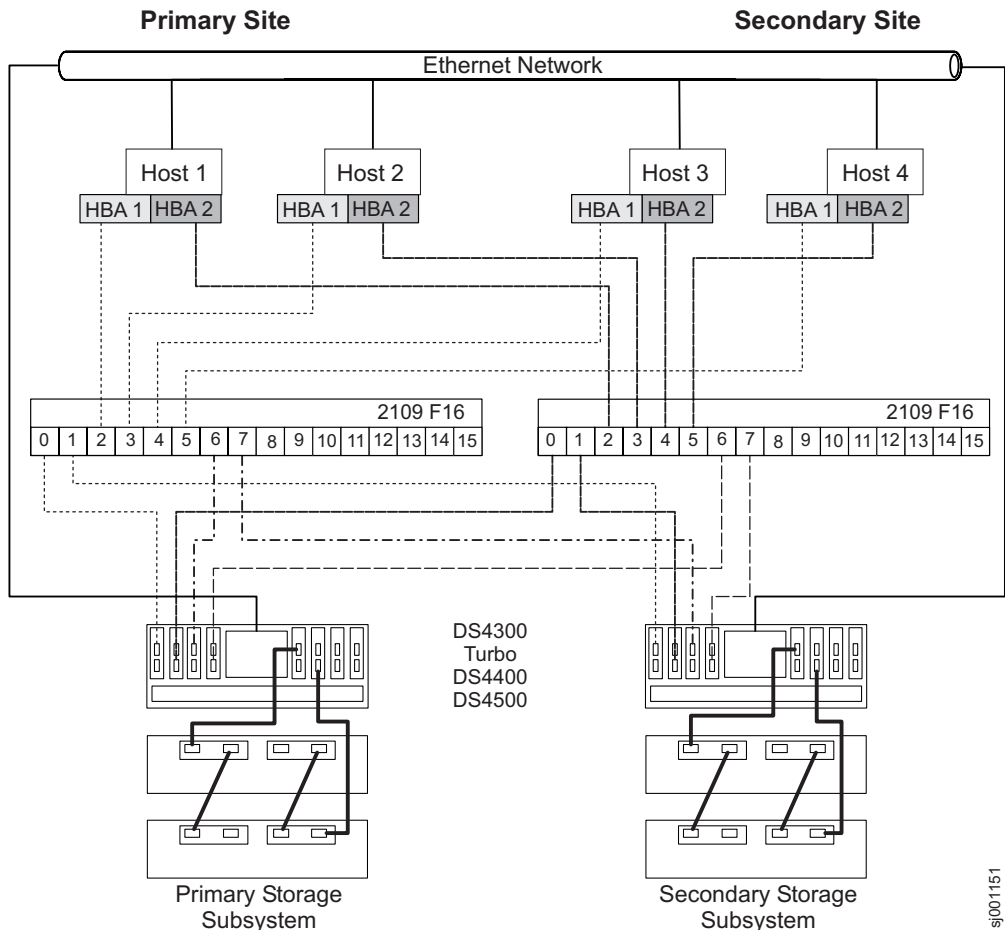

Figure 41. Intra-site configuration
Figure 41 on page 124 shows the Intra-site configuration after installation is complete.
Important: The fibre-channel switches in Figure 41 contain 16 ports each, which leaves many unused ports per switch. If you are performing switch zoning using the fibre-channel host port number, instead of the WWNN of the SAN fabric logged-in ports, do not include fibre-channel switch ports with no fibre-channel connections in the zone definition. If you include these unused ports in your zones, unauthorized access to the SAN might result.
Note: Figure 41 illustrates that there is no relationship between Zone A and Zone B in Switch 2 and Zone 1 and Zone 2 in Switch 1.
- Refer to Figure 41 on page 124 as you complete the steps in this procedure.